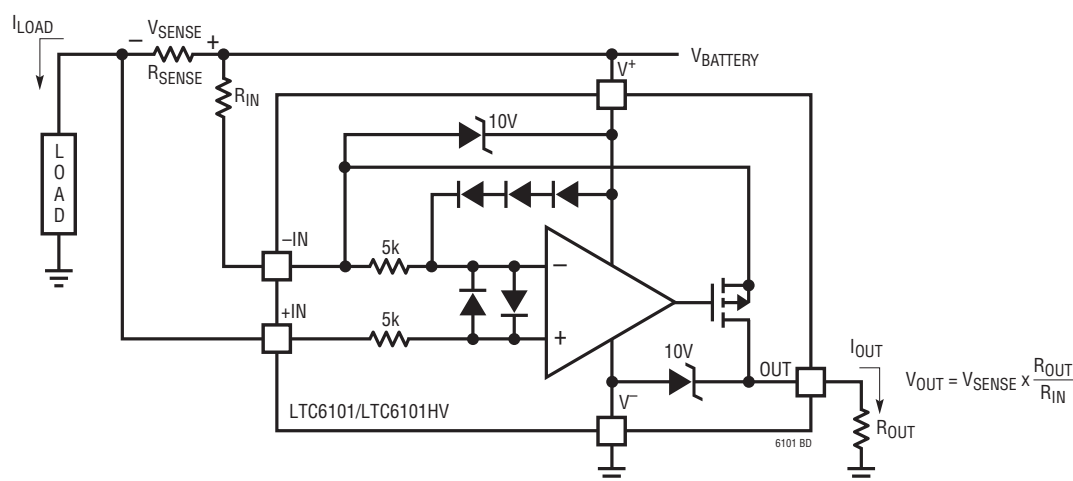

Figure 1. LTC6101/LTC6101HV Block Diagram and Typical Connection
**-IN:** The internal sense amplifier will drive IN- to the same potential as IN+. A resistor (RIN) tied from V+ to IN- sets the output current IOUT = VSENSE/RIN. VSENSE is the voltage developed across the external RSENSE (Figure 1).
The LTC6101 high side current sense amplifier (Figure 1) provides accurate monitoring of current through a user-selected sense resistor. The sense voltage is amplified by a user-selected gain and level shifted from the positive power supply to a ground-referred output. The output signal is analog and may be used as is or processed with an output filter.